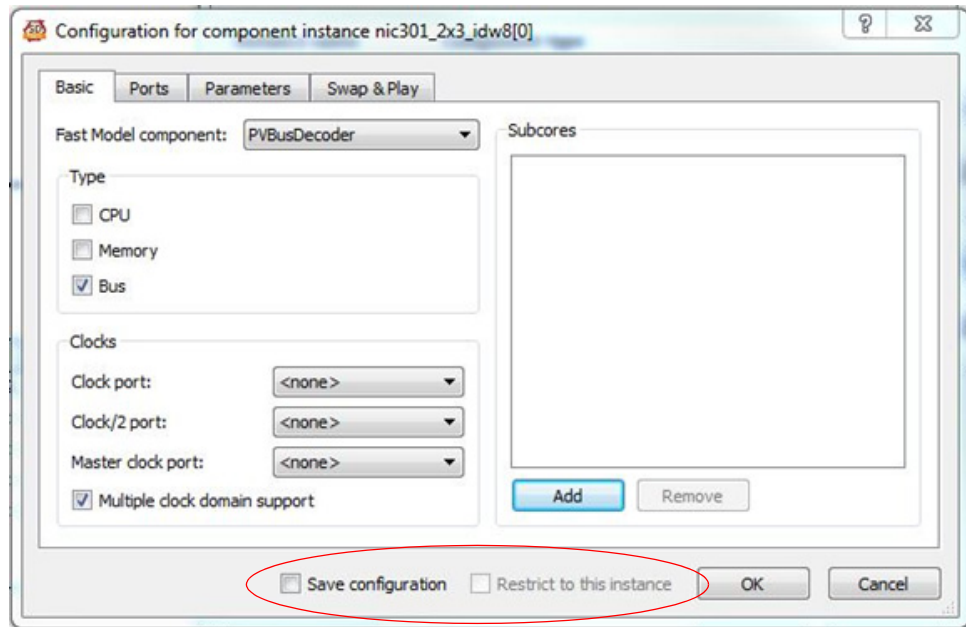

Figure 4-7 Save Configuration and Restrict to Instance checkboxes
- **All tabs** of the Fast Models Component Configuration dialog **for the selected instance** of a component only, enable the Restrict to this instance checkbox (Figure 4-7).
- **All tabs** of the Fast Models Component Configuration dialog at once, **for all instances** of the selected component, enable the Save Configuration checkbox (Figure 4-7).